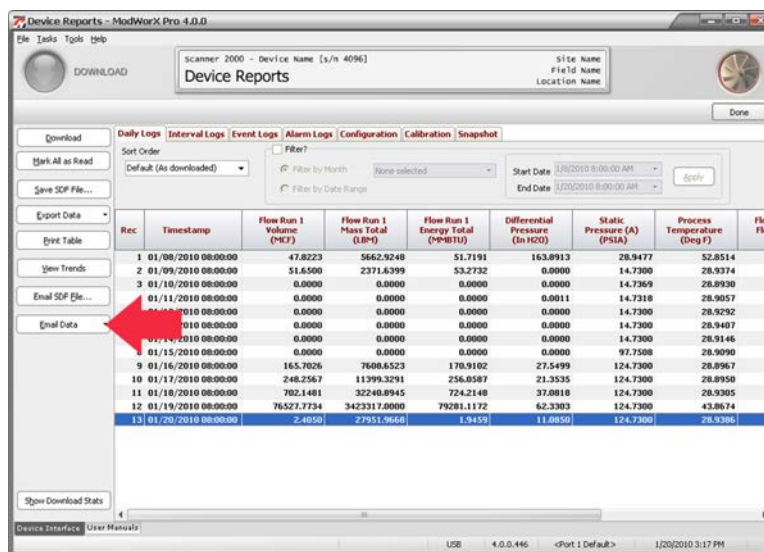

Figure 14.27
2. Click the **Email Data** button at the left of the screen (Figure 14.27, page 195) and select the export format desired (.XLS, .CSV, .PDF, .RTF, or html). Please note that calibration data can be exported for email in any format except .CSV.